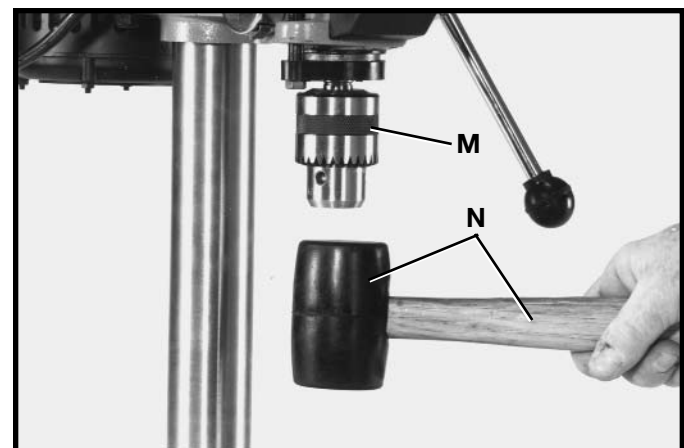

Fig. 10
7. **IMPORTANT:** Open the chuck jaws as wide as possible by turning the chuck sleeve (M) Fig. 10.
8. Holding chuck on taper of spindle, tap with a mallet (N) or a block of wood and hammer to set chuck, as shown in Fig. 10. **IMPORTANT:** To avoid damage to the chuck, **NEVER** drive the chuck onto the spindle with a metal hammer.